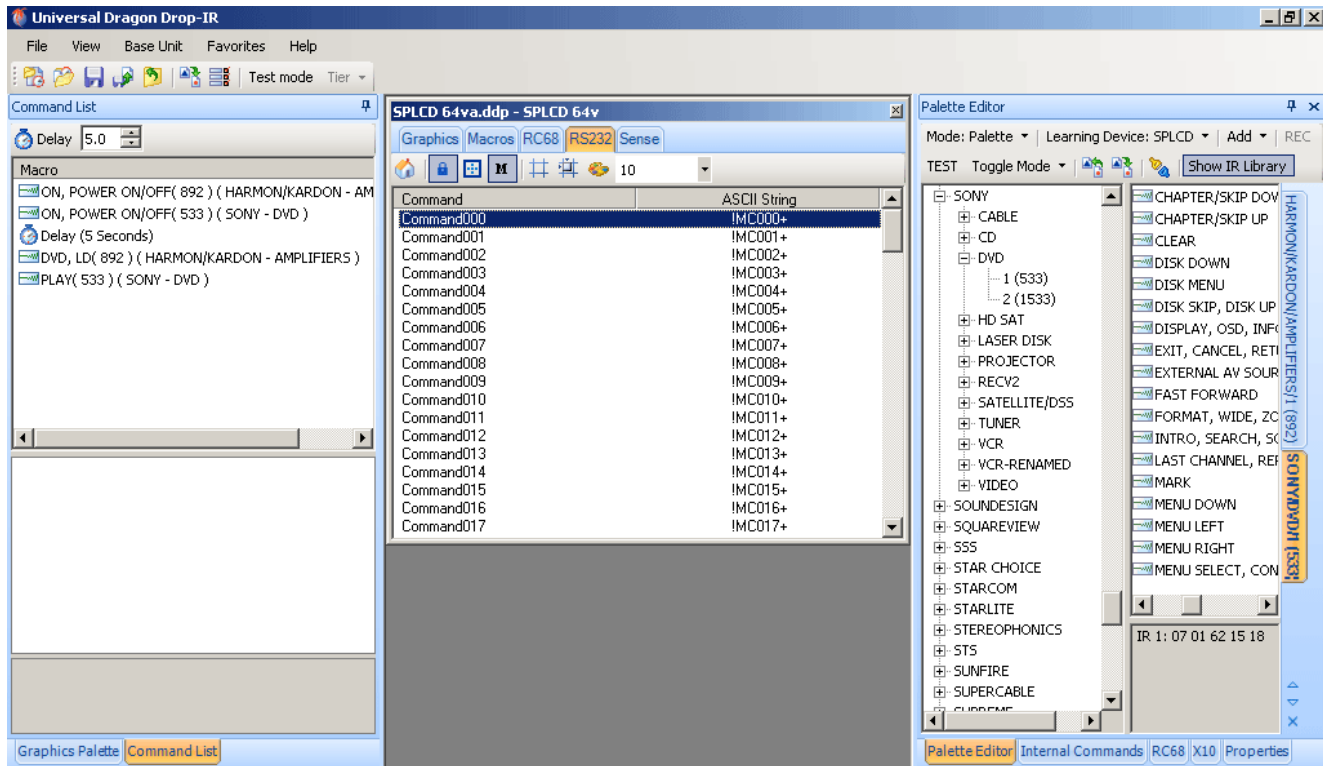

Figure 45 – RS232 Input Translator
1. In the **System Window**, select the **RS232 Tab**. (Figure 45)